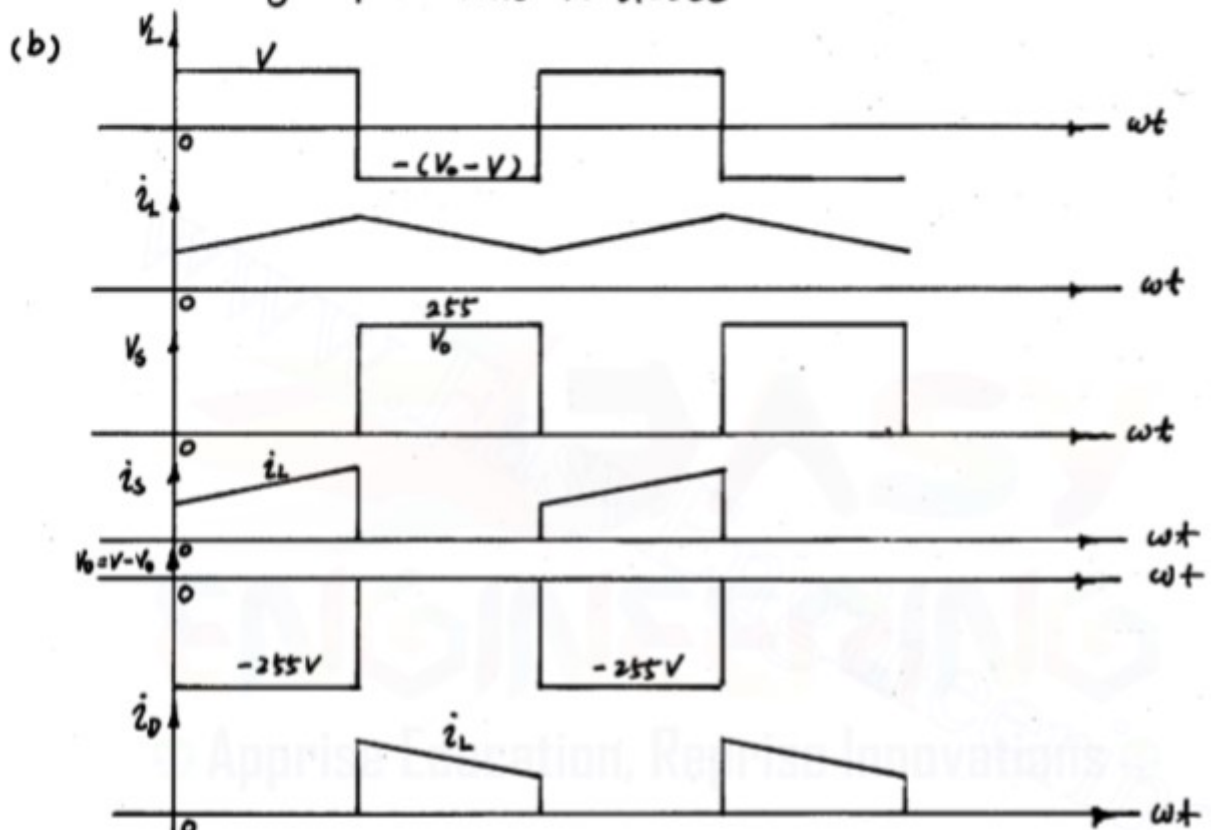

**FIGURE 10.36** Boost converter. (a) Circuit. (b) Waveforms. (c)  $V_o$  versus  $\alpha$ .
**10.24** The boost converter of Fig. 10.36 is used to charge a battery bank from a dc voltage source with  $V = 160$  V. Assume ideal switch and no-loss operation, and neglect the ripple at the output voltage. The battery bank consists of 100 identical batteries. Each battery has an internal resistance  $R_b = 0.1 \Omega$ . At the beginning of the charging process, each battery voltage is  $V_{b1} = 2.5$  V. When each battery is charged up to  $V_{b2} = 3.2$  V, the charging process is completed. The average charging current is kept constant at 0.5 A.